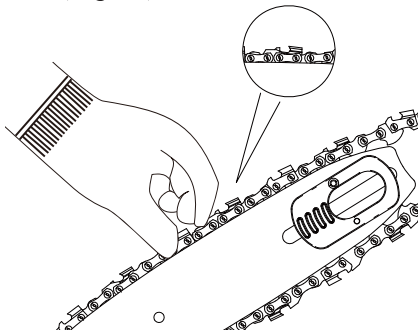

Fig. 12
4. Check the chain tension using one hand, by pulling upwards on the chain against the weight of the product. The correct chain tension is achieved when the saw chain can be lifted by approximately 5/64" (2mm) from the guide bar in the center (Fig. 12).